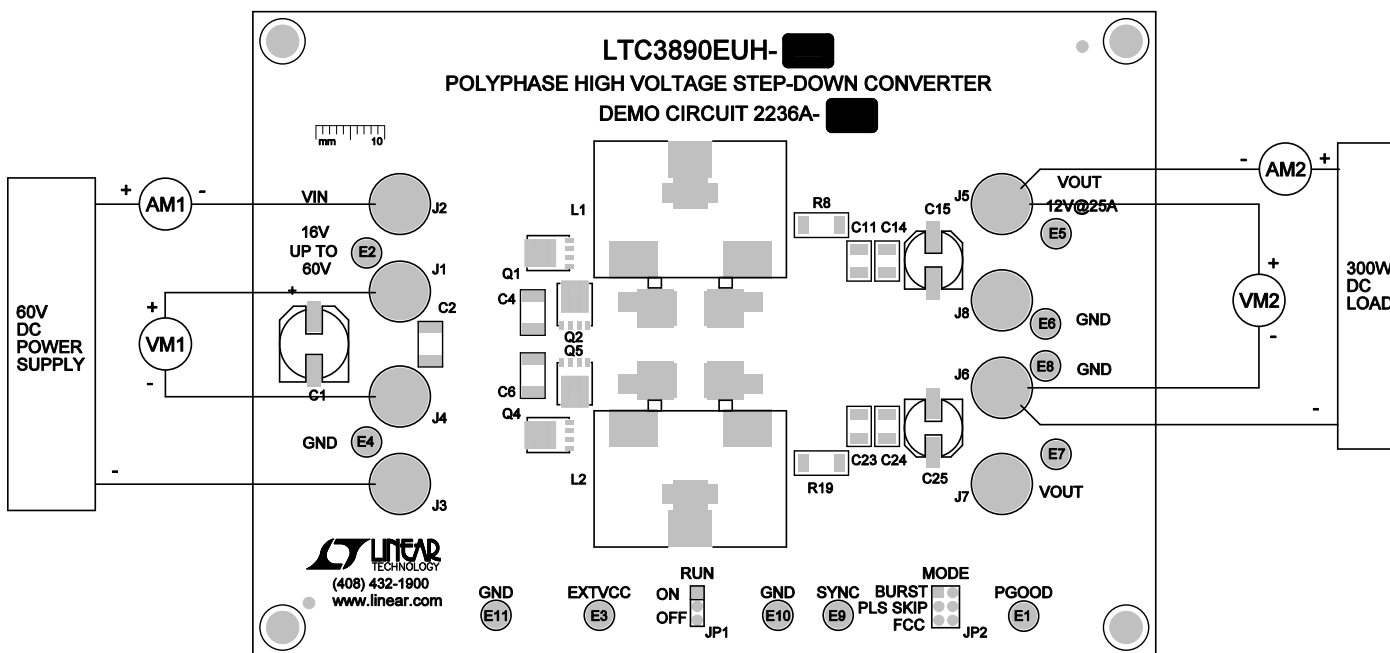

Figure 1. Proper Measurement Equipment Setup
Demonstration circuit 2236A-B is easy to set up to evaluate the performance of the LTC3890. For proper measurement equipment configuration, set up the circuit according to the diagram in Figure 1. Before proceeding to test, insert shunt into JP1 (RUN) OFF position, which connects the RUN pin to ground (GND), and thus, shuts down the circuit.
1. With the DC2236A-B set up according to the proper measurement and equipment in Figure 1, apply 20V at V_{IN} . Measure V_{OUT} ; it should read 0V. If desired, one can measure the shutdown supply current at this point. The supply current will be approximately 50 μ A, or less, in shutdown.